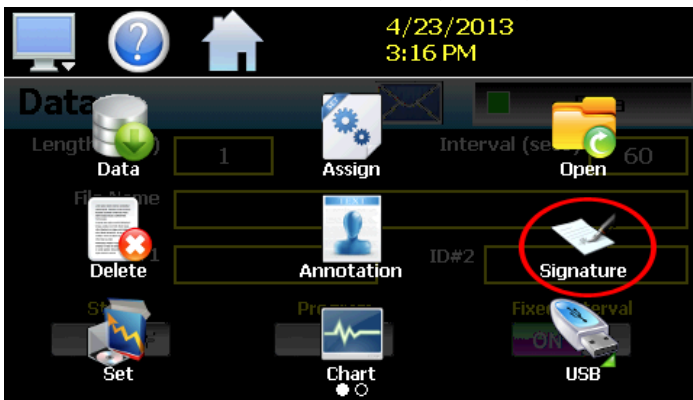

Fig. 85: Signatures Icon
3. Select MONITOR - SIGNATURE (Fig. 85).